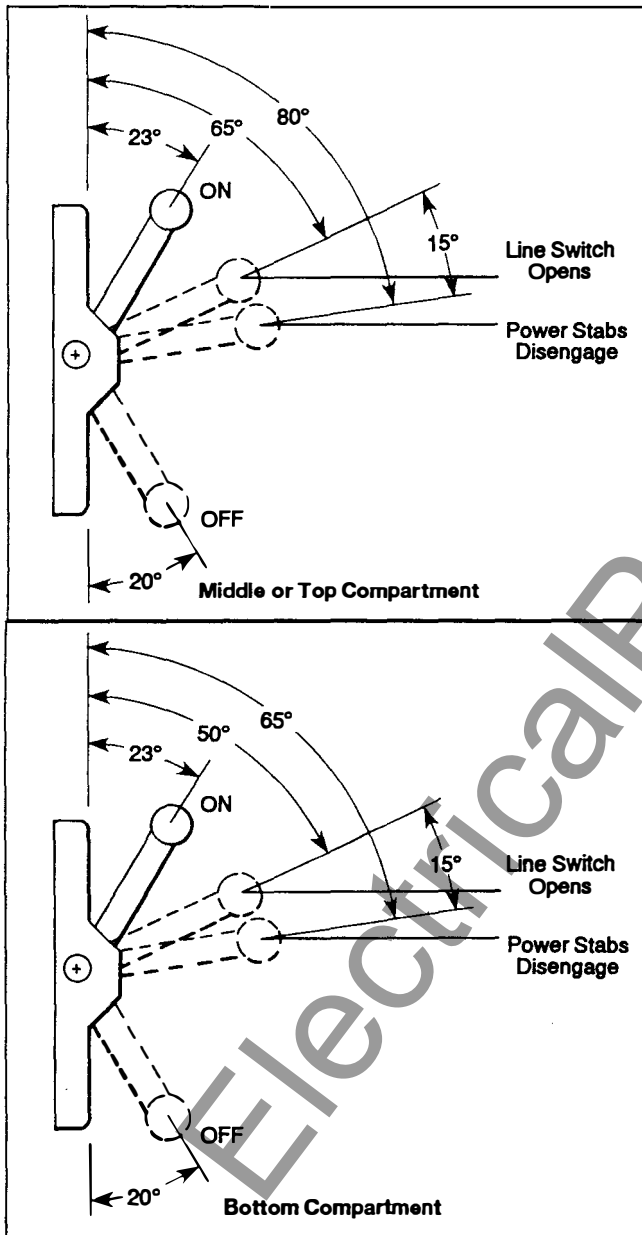

Figure 40. Racking Mechanism Adjustment
5. Slowly rack the contactor out by moving the handle toward the "OFF" position until the LSI opens as indicated by the ohmmeter. The handle position should be as indicated in **Figures 40**. Continue moving the handle toward "OFF" and observe the point at which the power disconnect finger assembly disengages from the stab terminal. This should occur in $15^{\circ} \pm 5^{\circ}$ handle travel past the point at which the LSI opens.